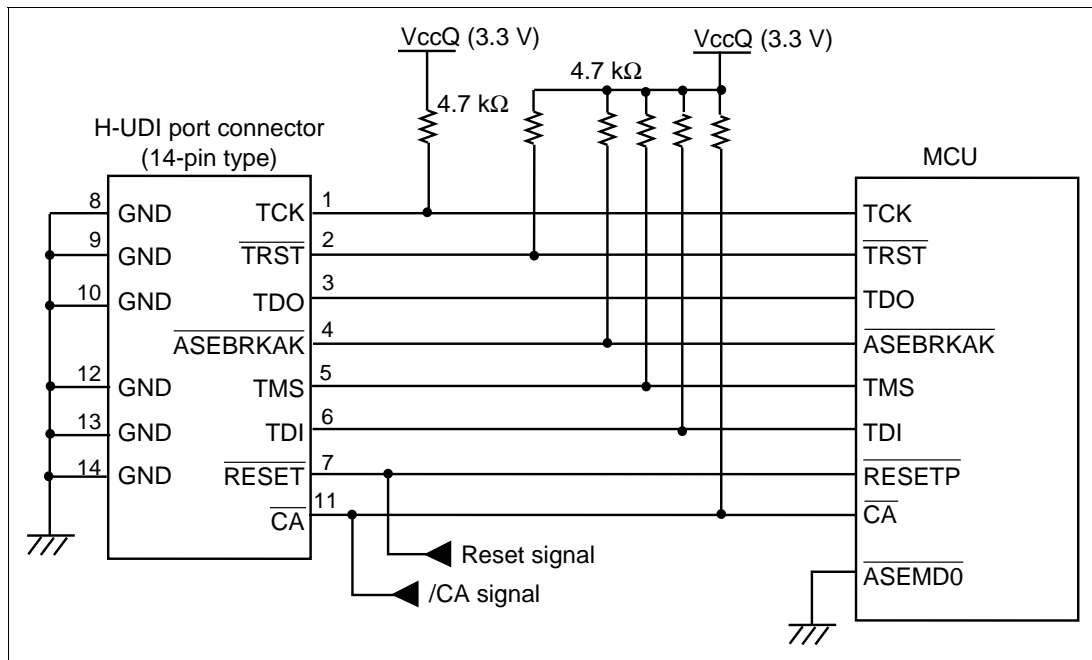

**Figure 4.1 Recommended Circuit for Connection between the H-UDI Port Connector and MCU (36-Pin Type)**
Figure 4.1 shows a recommended circuit for connection between the H-UDI port connector (36 pins) and the MCU.
- (1) When the emulator is used: /ASEMD0 = low (ASE mode)
- (2) When the emulator is not used: /ASEMD0 = high (normal mode)
8. The resistance values shown in figure 4.1 are recommended.